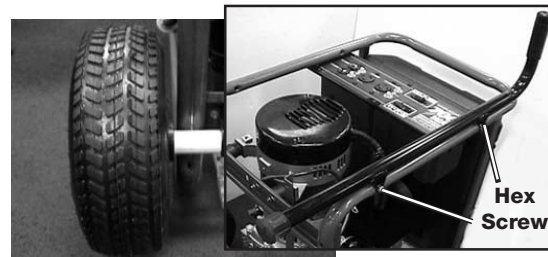

Figure 11
14. Line up the handle brackets with the holes in the frame near the receptacle end of the generator. See Figure 11.
15. Install hex screws (10) and lock nuts (9) as shown in Figure 11. Tighten with a 1/2" wrench.